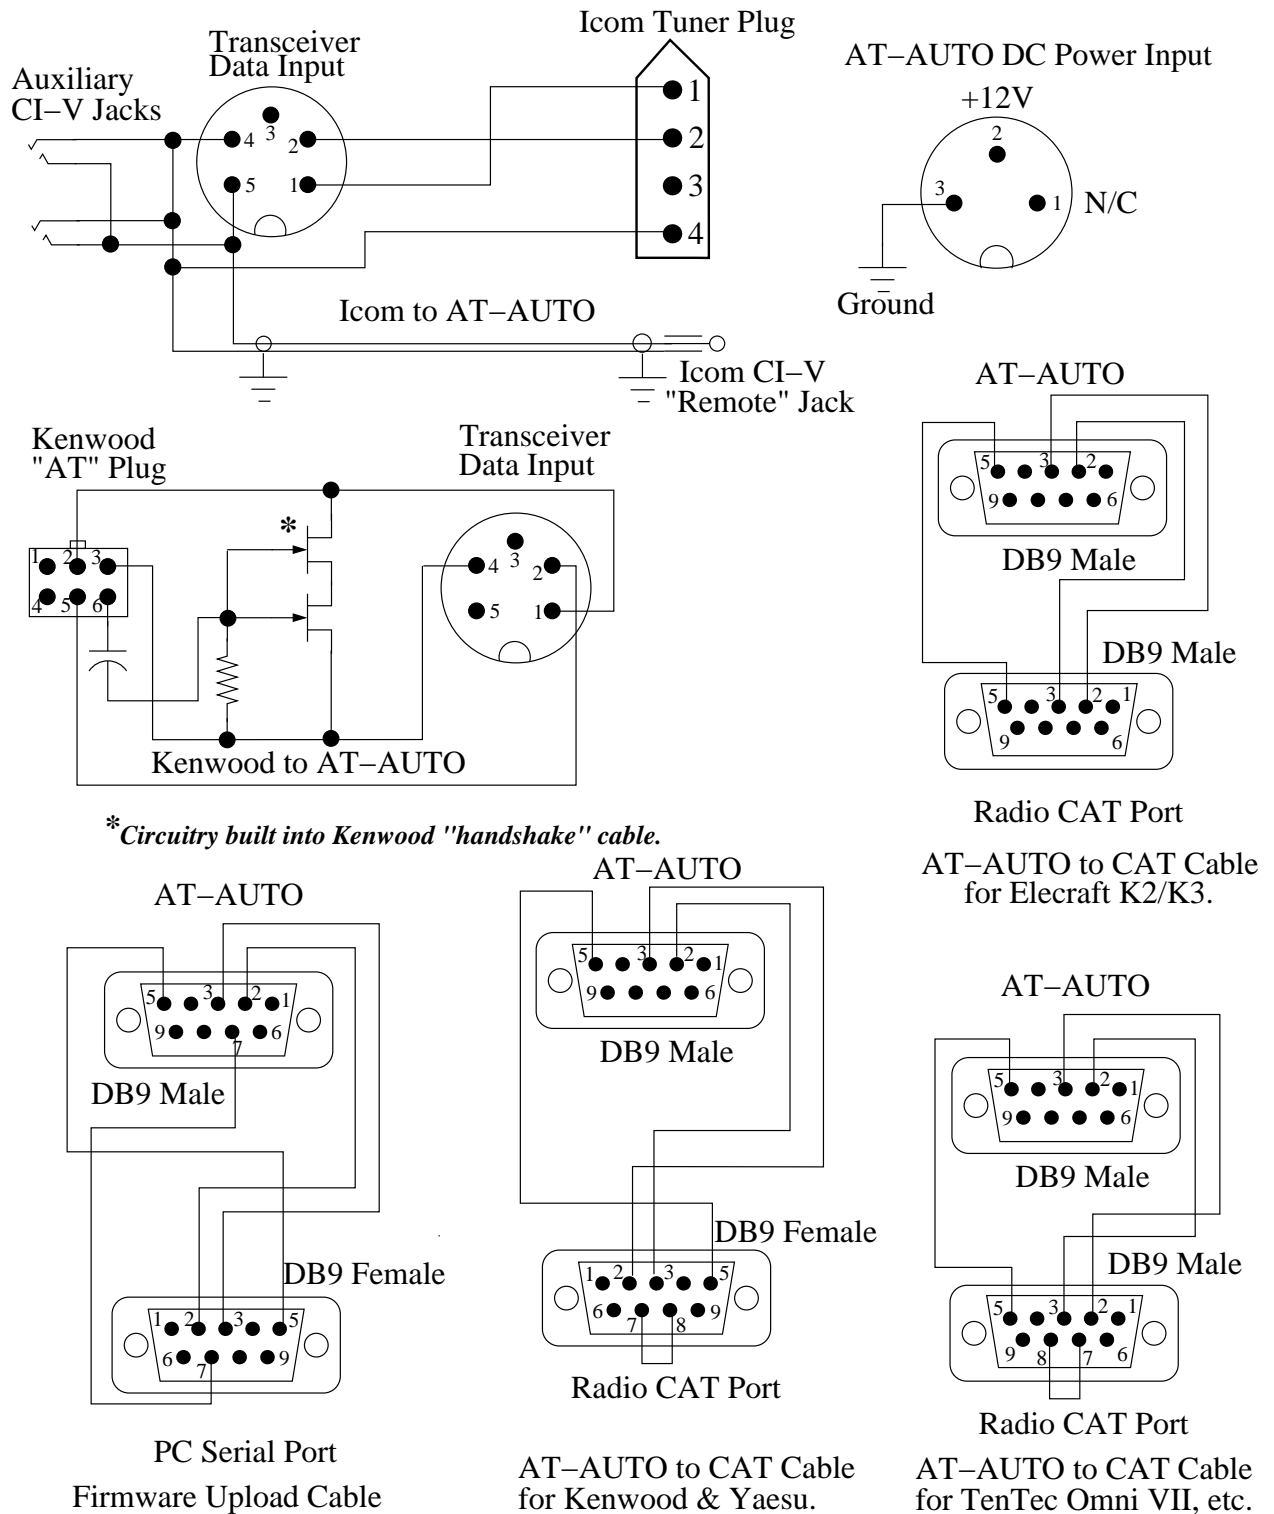

Figure 8.1: Interface Cable Diagrams
5. Connect your AT-AUTO_(tm) to your PC’s RS-232 serial port with the Kessler Engineering-supplied “Firmware Upload Cable” (See Figure 8.1 on page 78).
The AT-AUTO_(tm) is capable of controlling the low-power, constant carrier generation capability built into some Icom and Kenwood radios. This *External Tuner Handshake* requires connection of the AT-AUTO_(tm) with either the Icom's "tuner" interface or the Kenwood's "AT" interface. Do NOT attempt AT-AUTO_(tm) - radio interfacing via the "Data/Handshake" connector with non-Icom or non-Kenwood radios. Kenwood radios require additional external circuitry (built into the Kessler Engineering-supplied interface cable) in order for the handshake feature to operate. Figure 8.1 on page 78 illustrates the handshaking cables used for Icom and Kenwood radios.
Kessler Engineering supplies interface cables that are suitable for use with either Icom transceivers, most Kenwood, some Yaesu, several TenTec and Elecraft transceivers. The information supplied in this section is provided to enable AT-AUTO_(tm) owners to construct their own interface cables. Rear panel connector pinouts are provided in Table 8.1 on page 77, and Figure 8.1 (page 78) provides illustrations of the serial data interfacing cabling.